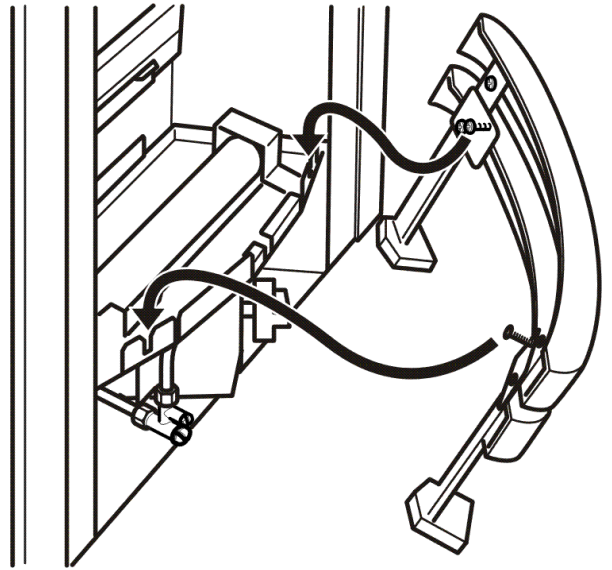

Figure 31. Firefront location
3. Locate the firefront as in figure 31. The screw heads should locate into the slots in the burner tray.